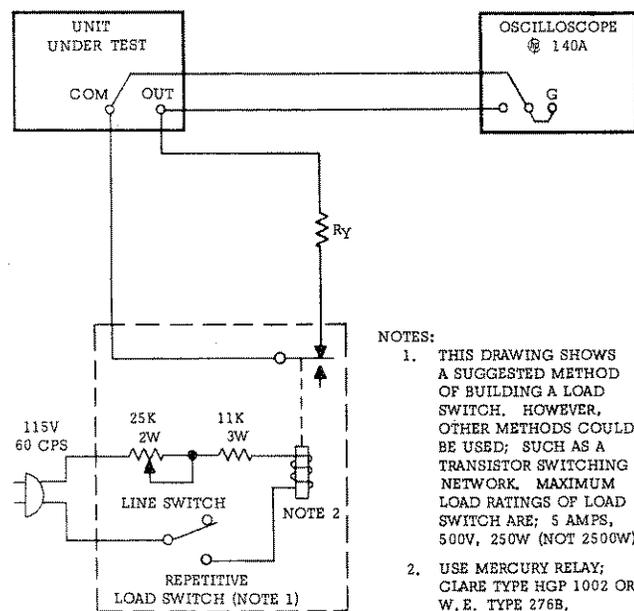

Figure 5-5. Transient Response, Test Setup
a. Connect test setup shown in Figure 5-5.